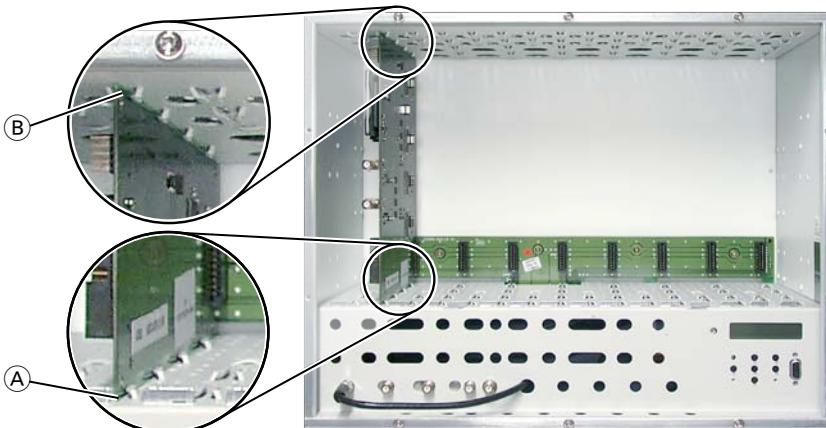

Fig. 4
- Insert the digital module in grooves ① and ② of an open slot left to the associated modulator module and gently slide it into the head-end station until it makes contact with the board on the rear wall (fig. 4).